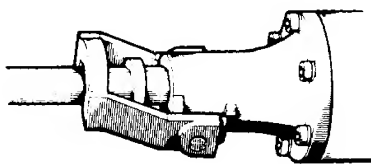

Fig. 3
(2) Swing the retainer back into place so that it engages the tool shank and prevents tool from coming all the way out of front cover. (Fig. 3)